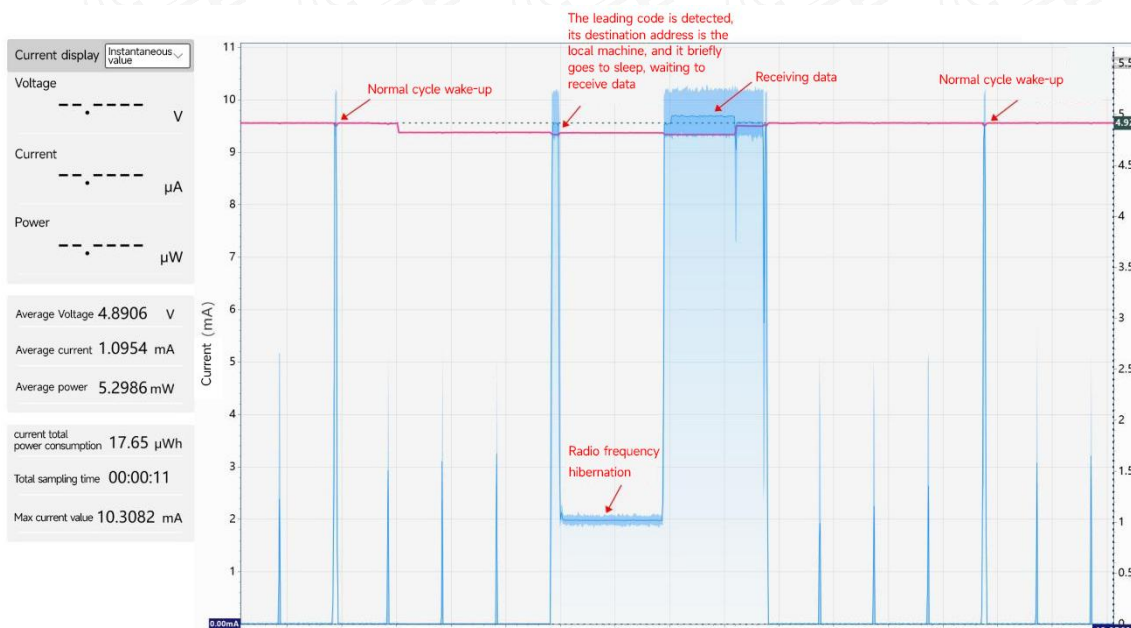
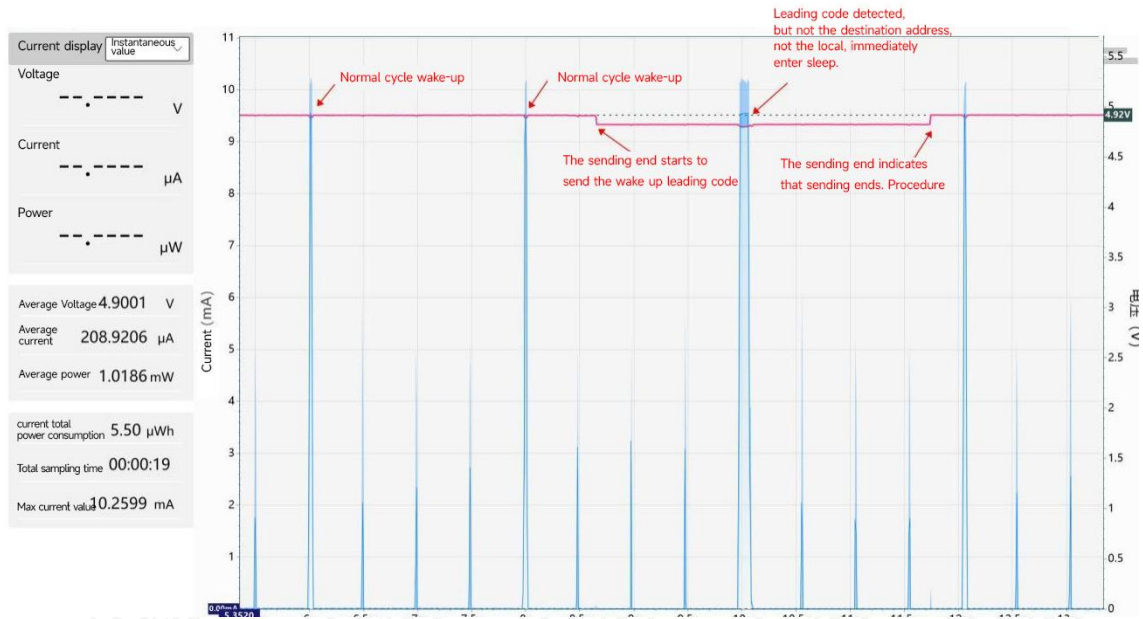

Figure 1 Target device current consumption diagram
Figure 2 Current consumption of non-target devices
- E290-xxxTxxS supports single-point wake-up function, which can wake up a module alone without waking up all modules. The current consumption diagram of the receiving device when it is the target device is shown in Figure 1 below , and the other non-target devices will re-enter the sleep state as shown in Figure 2.